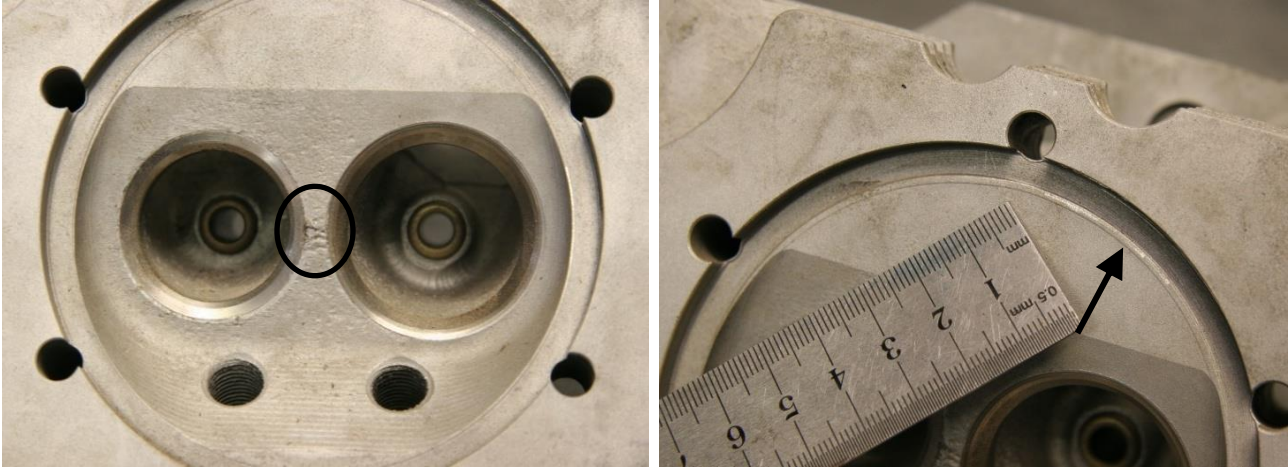

Figure 89 – Cracking Between Valves, Recessed Cylinder Spigot
- Figure 89 (right) is a cylinder head in which the cylinder has crushed into the cylinder head. This can be caused by over-tensioning or operating the engine with too-high CHT's. This is not acceptable for re-use as it alters the engines compression ratio.